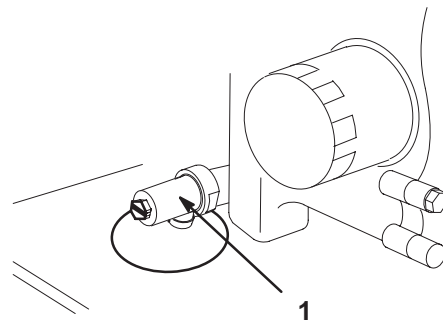

Figure 35
3. Place a pan below the oil drain. Use either a flat screw driver, 3/8 in. or 10 mm wrench to open valve (Fig. 35).
4. Rotate valve end clockwise to close valve. Rotate valve end counterclockwise to open valve (Fig. 35).
5. When oil has drained completely, close the drain valve (Fig. 35).